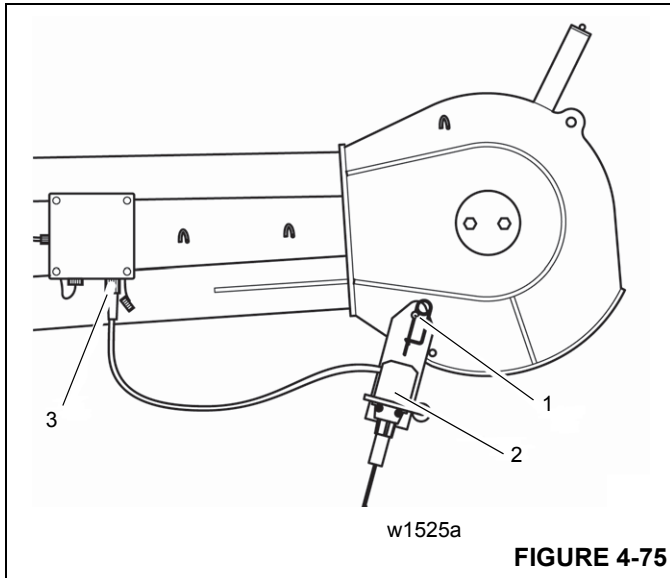

FIGURE 4-75
- Attach the lifting limit switch (3) in the holder (4) and secure it with a retaining pin.
- Remove the short-circuit plug (2) from the socket (1).
- Connect the lifting limit switch on the socket (1).
- When unrigging you must insert the short-circuit plug (2) back in the socket (1).
- Attach the lifting limit switch (2) on the shackle (1) and secure it with a retaining pin (Figure 4-75).
- Connect the lifting limit switch on the socket (3).
- When stowing, close the socket (3) with the protective cap.